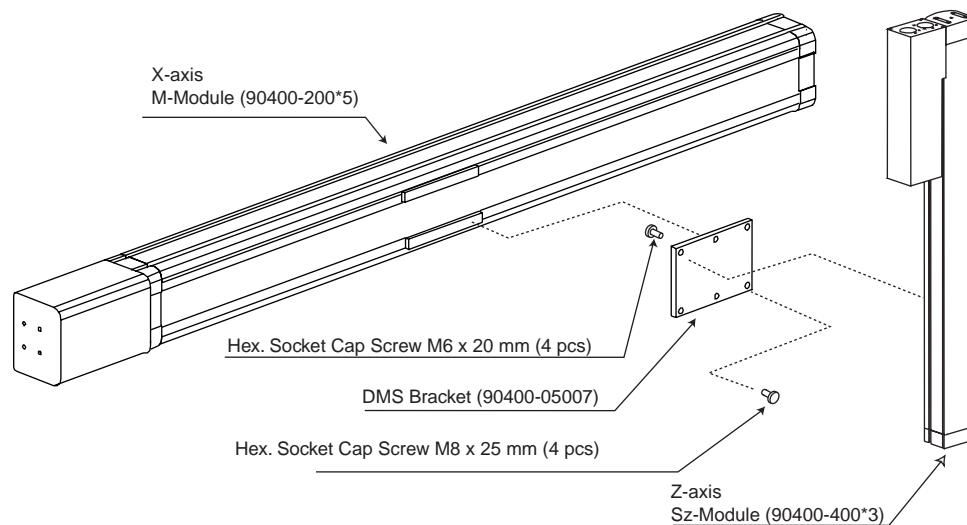

Figure 4-43. Z-4 Type Mechanical Assembly
5. Mount the Z-axis to combining bracket. Install the mounting bolts (see Figure 4-43 and refer to Table 3-3 for mounting bolt specifications).